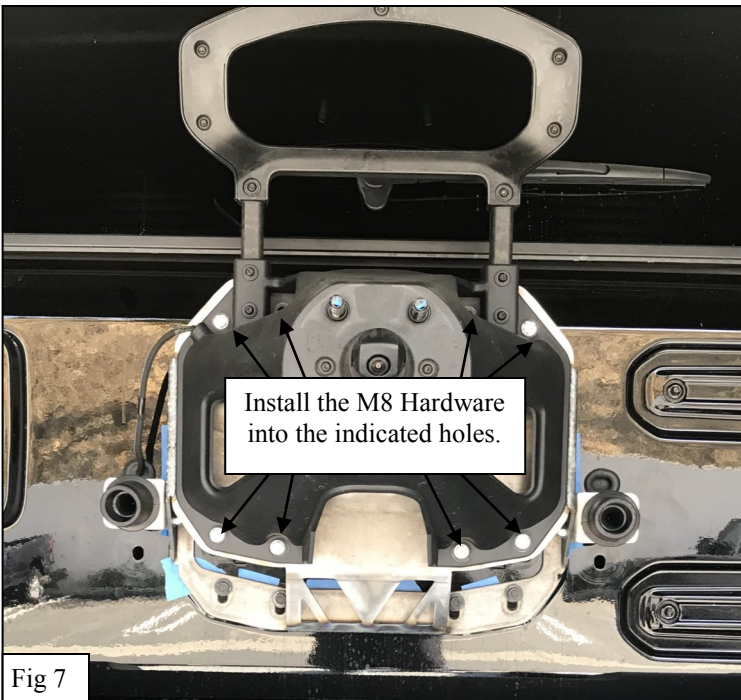

Fig 7
10. Install the OEM Tire Carrier onto the Spare Tire Relocator (1) using the provided M8 Hardware. See **Figures 7 & 8**. *Note: Be sure not to pinch the camera wiring upon install.*